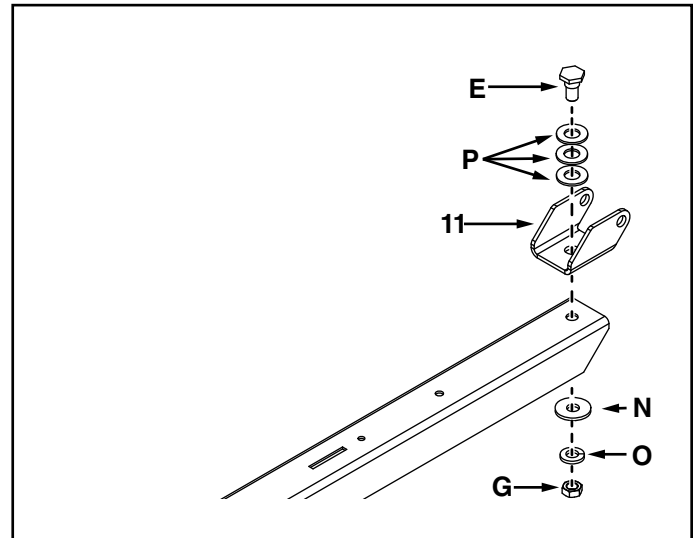

FIGURE 2
STEP 2: (SEE FIGURE 2)
1. Attach the pivot clevis to the tongue using a 1/2" x 1-1/8" bolt (E), three 5/8" x .656" washer (P), a 1/2" x 1-1/2" washer (N), a 1/2" lock washer (O), and a 1/2" jam nut (G).